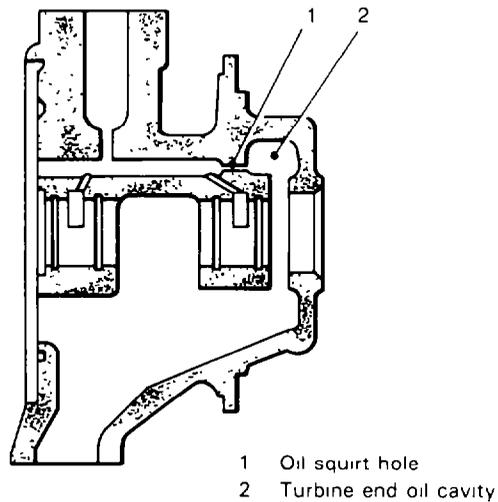

Figure 16 Turbocharger Centre Housing —
- j. Check the turbine-end oil cavity of the centre housing and remove all carbonized oil; if the centre housing includes an oil squirt hole, make sure that the hole is free of carbonized oil or other foreign material (see Fig 16). If the hole is obstructed, clear it by running through with a wire of the same diameter as the hole.